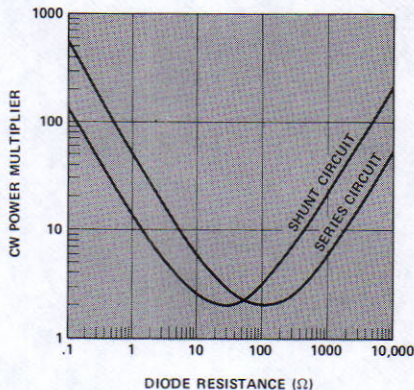
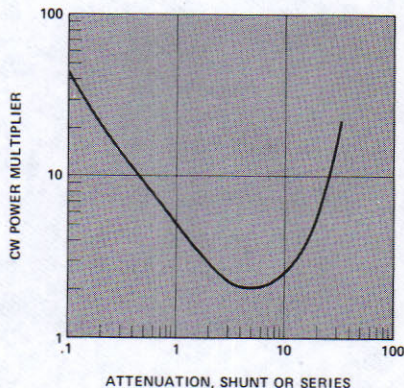

Figure 3. CW Power Multiplier vs. Diode Resistance.
Figure 4. CW Power Multiplier vs. Series or Shunt Attenuation.
2. Determine the CW Power Multiplier from Equation (1) for a shunt circuit, or Equation (4) for a series circuit. Alternatively, Figure 3 can be used if diode resistance is known, or Figure 4 can be used if circuit attenuation is known.